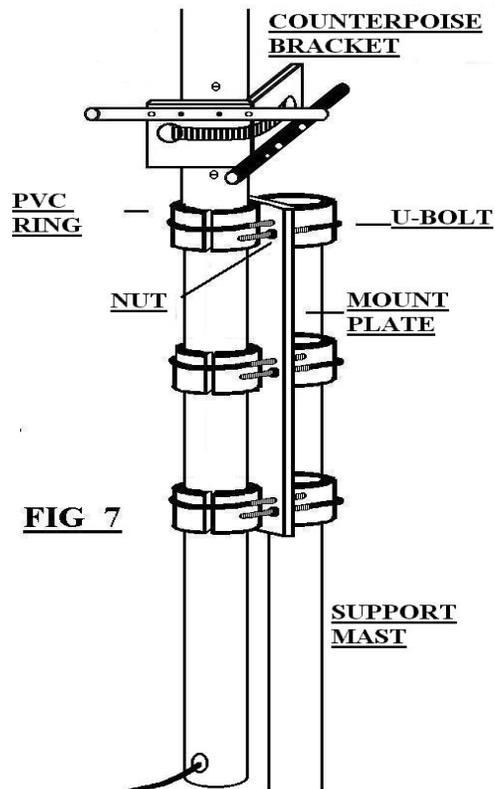

FIGURE 7
5.4 Pole Mount Assembly: Refer to Figure 7
- B) Insert the U-bolts into the plate as shown in figure 7